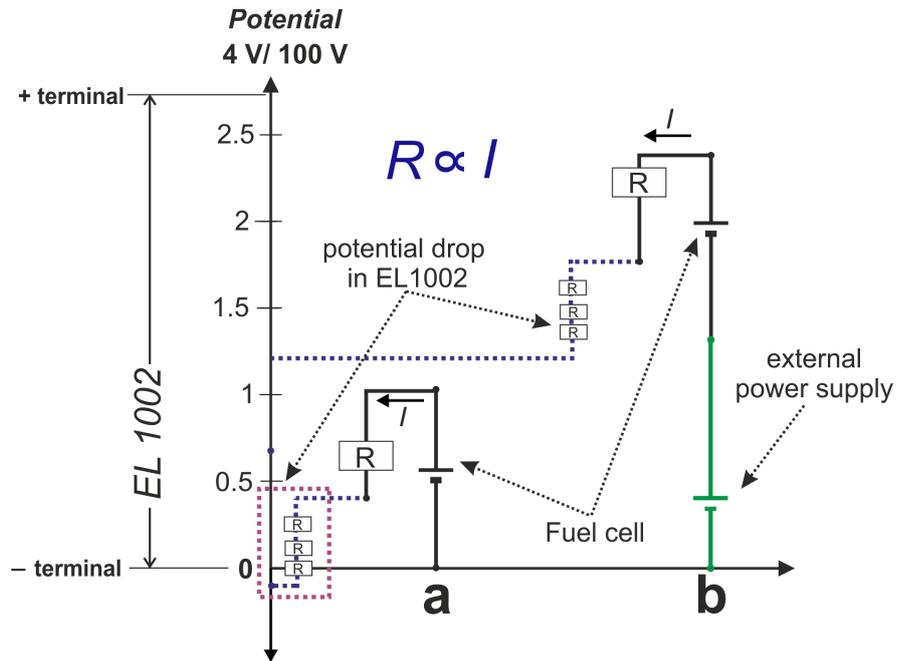

Fig. 26: Compensation of the voltage drop in a system using an external power supply.
Fig. 26 shows the voltage drop across the resistance (R) of the system. There are some additional resistances within the EL1002 leading to further voltage drops. The Fig. 26a illustrates this two-step voltage drop at very high currents. Since in this case the voltage drop is larger than the potential of the fuel cell, the set current cannot be achieved by the EL1002. To compensate for the voltage drop at high currents, a small additional potential is provided by the external power supply to the fuel cell